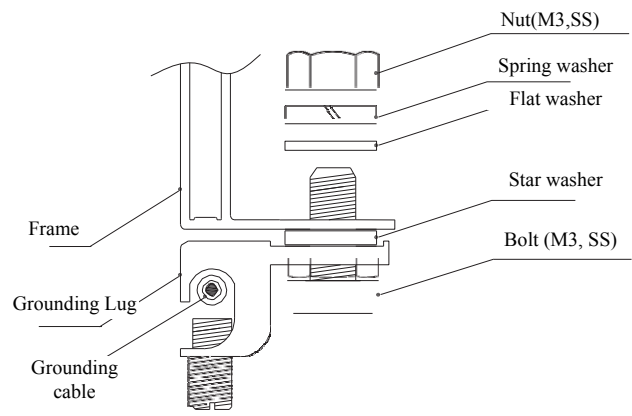

Figure 7
- First, peel the grounding cable to a proper length without damage to the metal core. Then insert the peeled cable into the lug, tighten the screw. As shown in Figure 7, connect the lug to the aluminum frame with stainless steel bolts and connection components. The recommended tightening torque for M3 bolts is 2.3N•m.